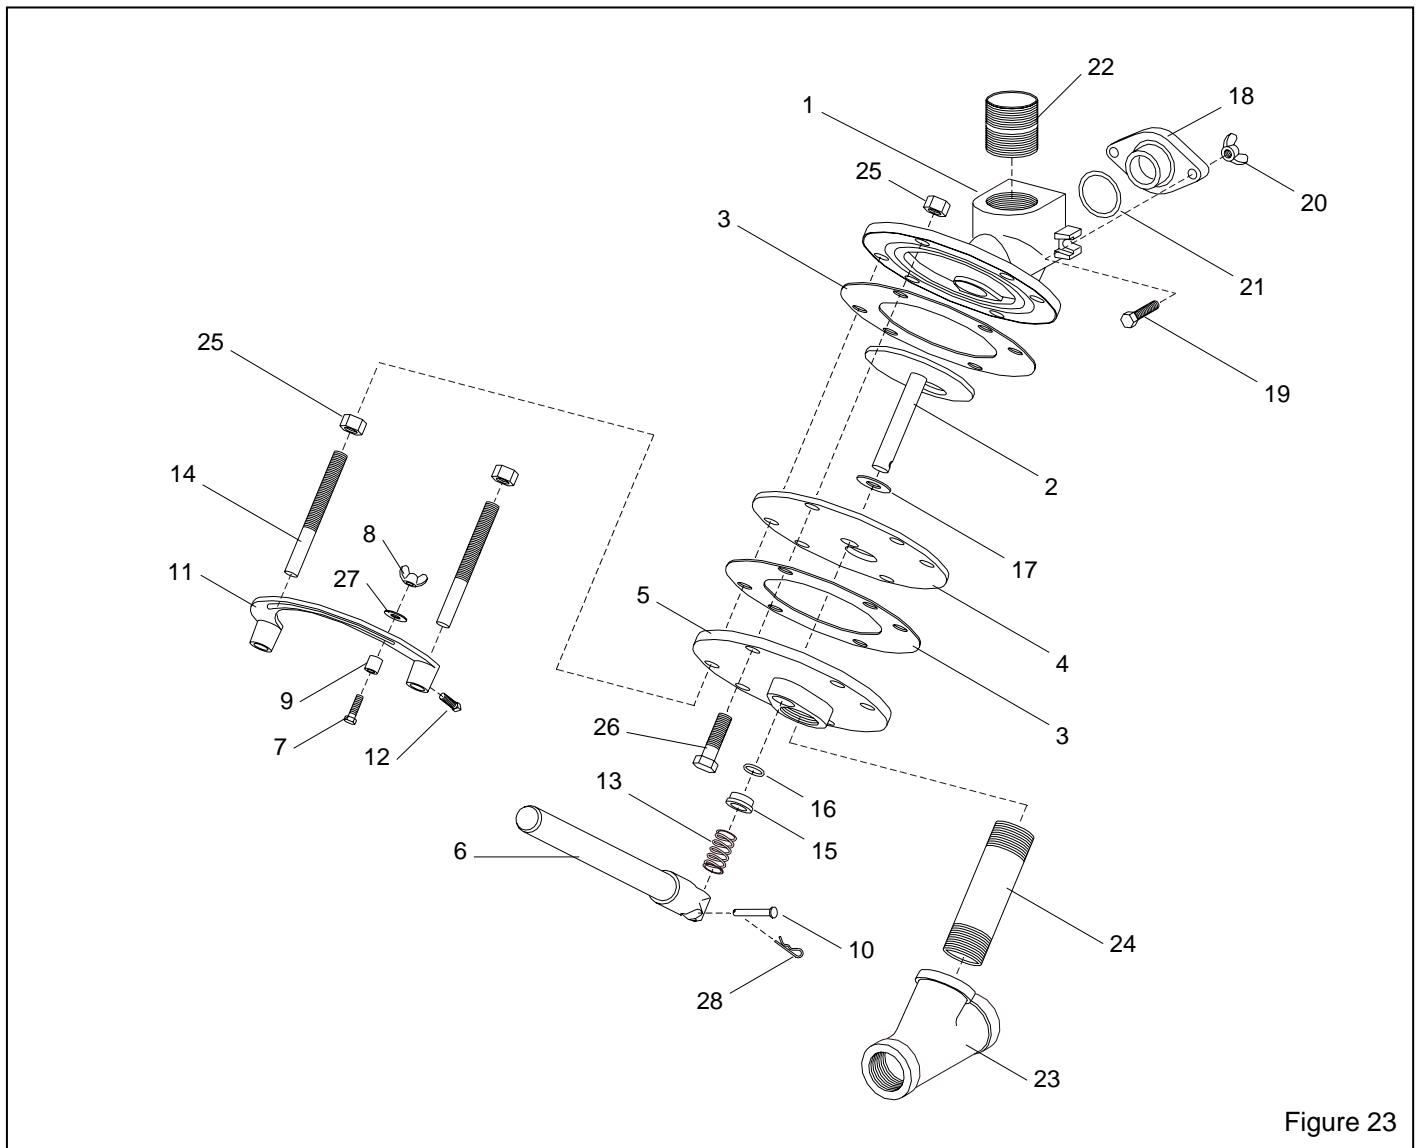

Figure 23
9.7 FSV Media Metering Valve, Figure 23